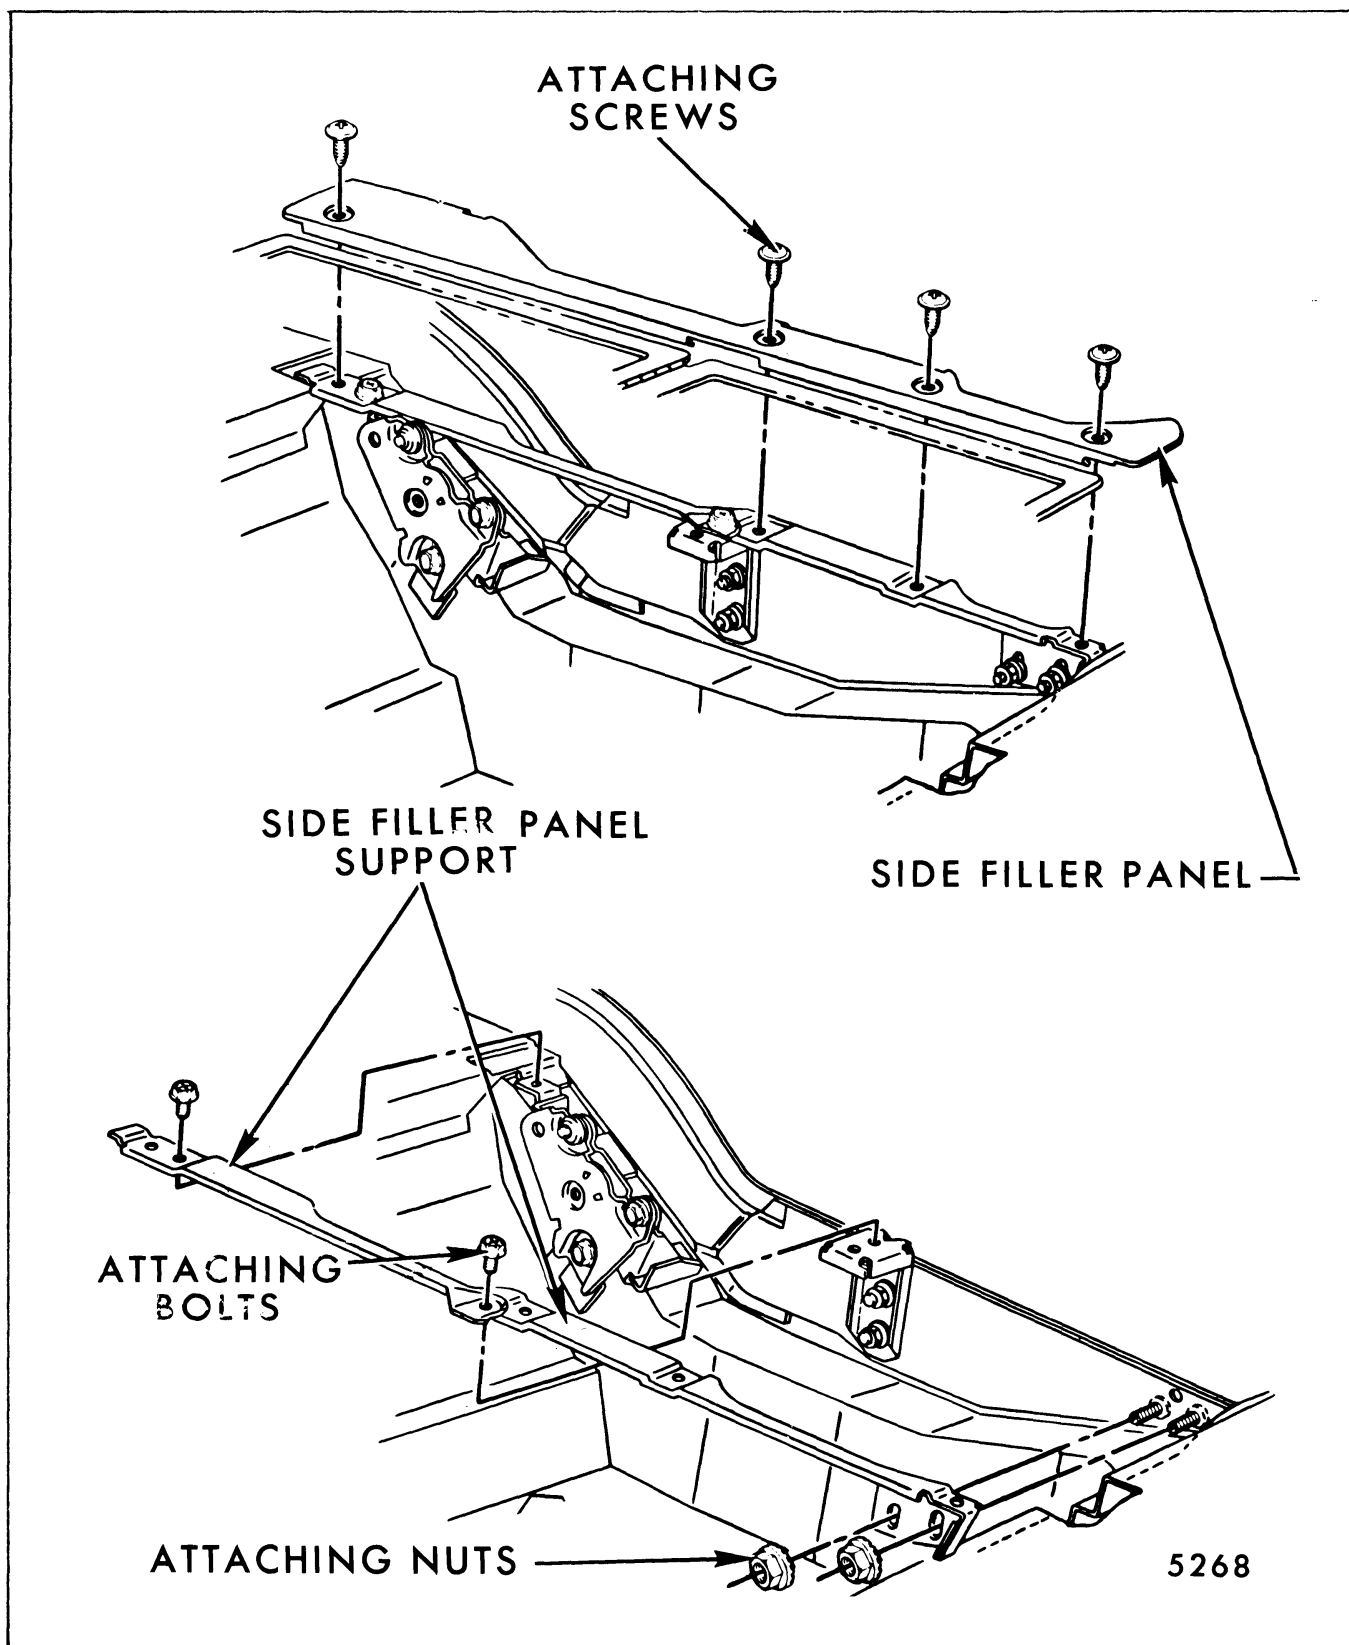

Fig. 9-75-Rear Floor Side Filler Panel - "A" Three-Seat Styles
On "A" body three-seat styles remove side filler panel supports (Fig. 9-75).
2. Remove right and left side filler panels and detach side filler panel supports (Fig. 9-75).